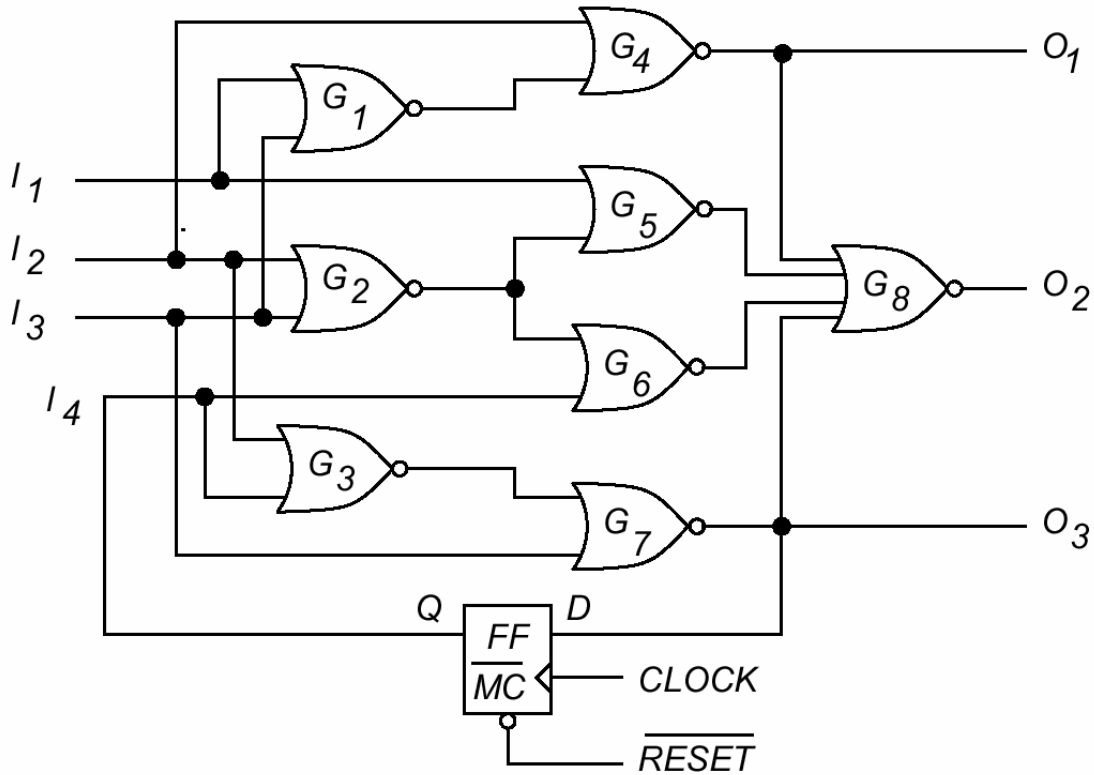

Figure 3. Circuit for Problem 3.
3. (15 pts) For the circuit in Figure 3, compute the combinational and sequential SCOAP testability measures (both controllability and observability, including the *CLOCK* and synchronous \sim *RESET* signals). You can write on the figure, but be clear about which measure is which. Extra copies of the circuit are attached at the end to aid you in working out your solution.